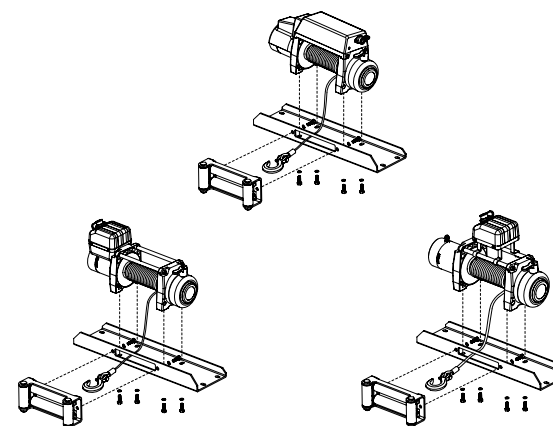

Figure8
1. For 12 or 24V Voltage winches, to choose suitable generator and storage battery with 440 CCA capacity is recommended. If the winch is dragging a heavy object, an auxiliary storage battery is recommended. (See figure8)